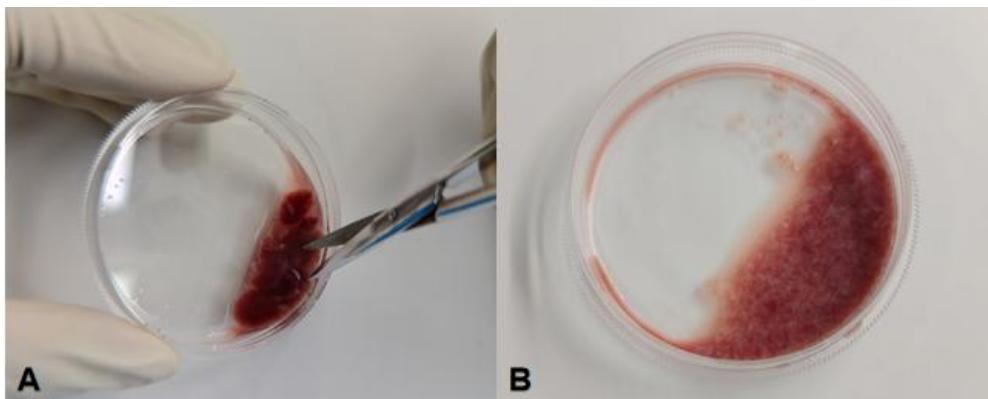

Figure 1. Treatment of liver tissue in vitro
- (1) Tissue Processing
- b. Quickly cut the tissue into 1 mm³ pieces using ophthalmic scissors 3, until the tissue is sugar like (as shown in Figure 1) and there are no large pieces of tissue. Use a Pasteur pipette or a